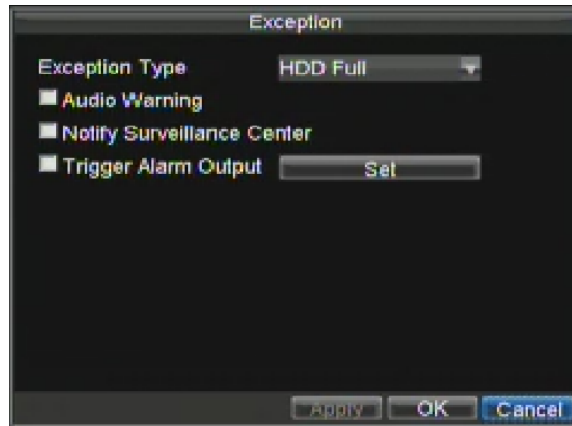

Figure 16. Exception Menu
3. Select triggering options, as shown in Figure 16. Trigger options are further explained in the next section (See *Understanding Exception Trigger Options*).